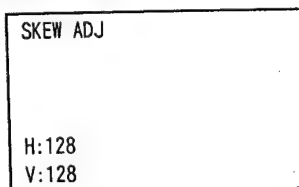

Fig. 3
3. Adjust with the (**[◀]**, **[▶]**, **[▲]** and **[▼]**) arrow keys so that H=128 and V=128. (Fig. 3)